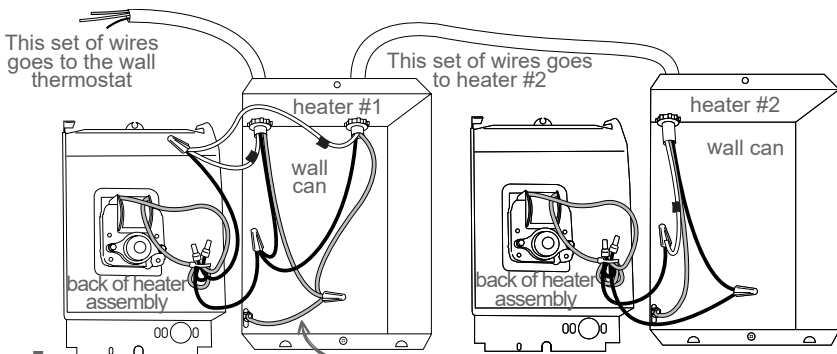

Figure 7
1. Route the electrical supply wire from the circuit breaker to the wall thermostat. At the wall can of heater #1, attach two sets of electrical supply wires with two cable clamp connectors (not included), leaving a minimum of 6 inches wire lead. One set of electrical supply wire goes to the wall thermostat and the other set goes to heater #2 (See Figure 7).
2. There are two supply ground wires in the wall can of heater #1. You'll need to add a small piece of copper wire (not included) to make the 3-wire connection with the ground screw (See Figure 7).
4. For heater #2, make the connections in the wall can as shown in Figure 7 above.